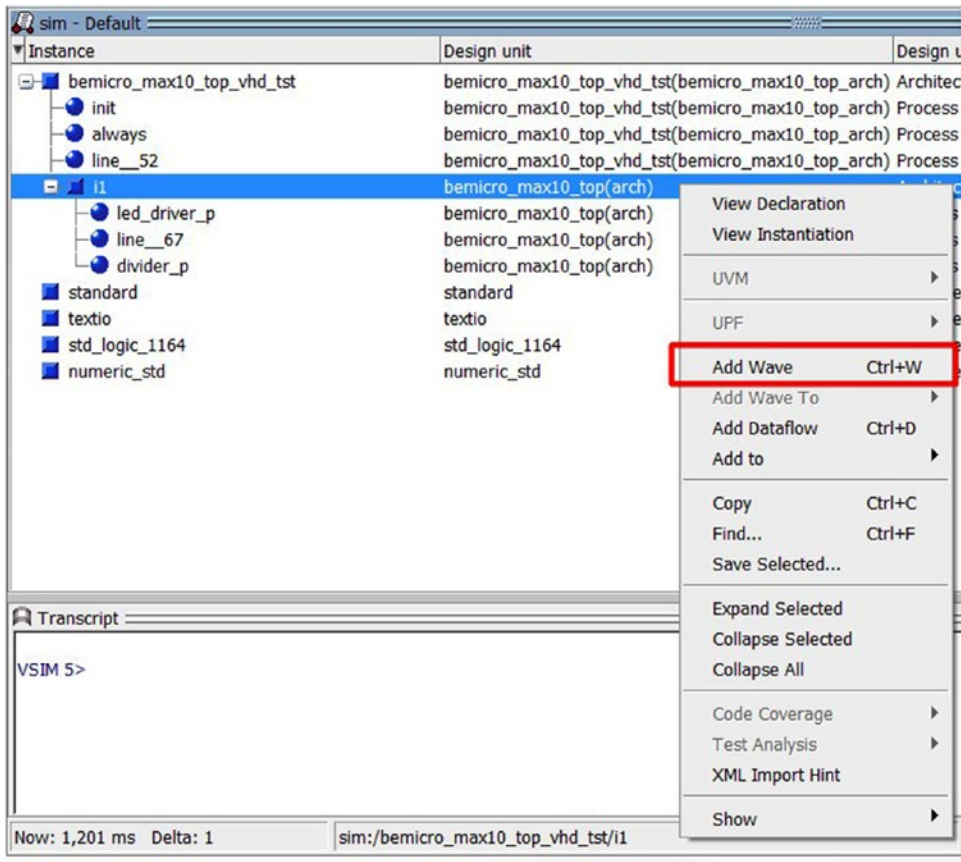
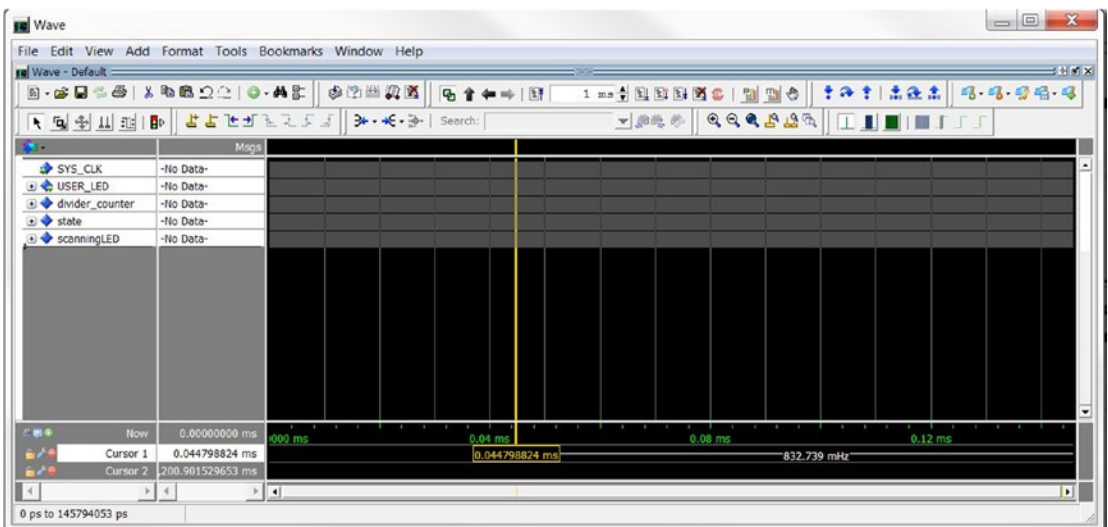

Figure 4-46. Add all the signals into a Wave display
Figure 4-47. Wave window
- Right-click the Instance **i1** or Design unit: **bemicro_max10_top(arch)**, and click **Add Wave**. Figure 4-46 shows the location. It will pop up a Wave window like Figure 4-47. You can also trigger it by entering the following script in the Transcript box: